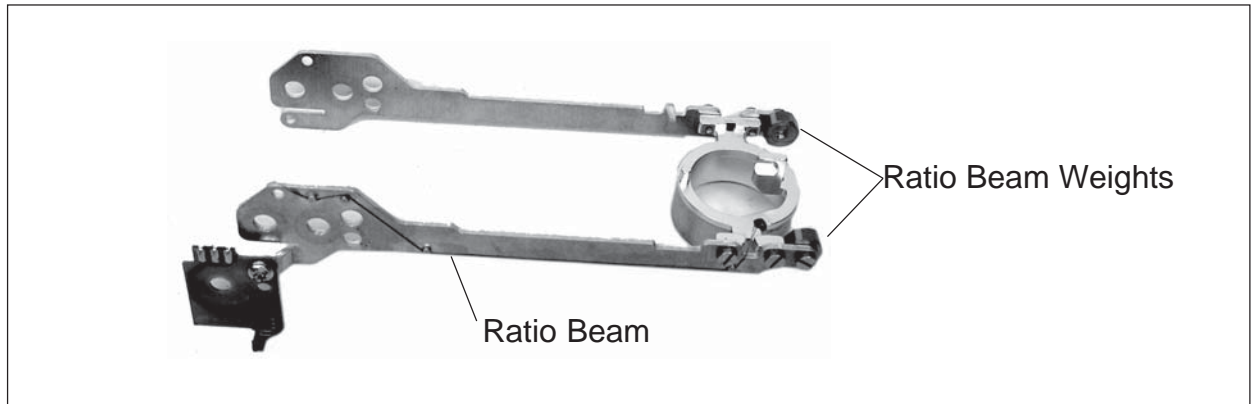

Figure 3-57. Ratio Beam Weight Removal.
1. If a new Ratio Beam is being installed, remove the existing weights from the old Ratio Beam and install on the replacement Ratio Beam. See Figure 3-57.